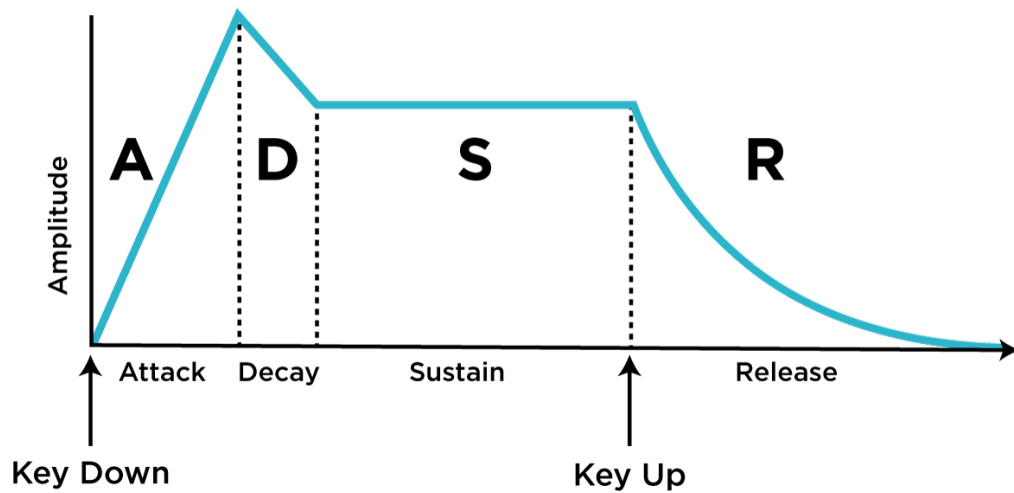

Figure 5: ADSR Envelope
Envelope generators create a control voltage in response to a gate/trigger signal. The generated signal typically consists of four stages (see figure 5):
- Figure 5: https://d2wclktjr2mmlu.cloudfront.net/media/wysiwyg/articles/learning-synthesis-envelopes-1/ADSR_graf-2.jpg, 17.10.2019.